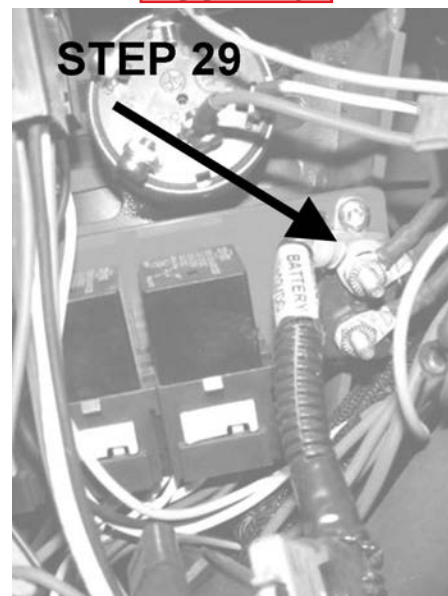

FIGURE 21
29. Attach the other end of the harness with the ring terminal labeled "BATTERY +12VDC" to the main circuit breaker of the machine. **Figure 21**